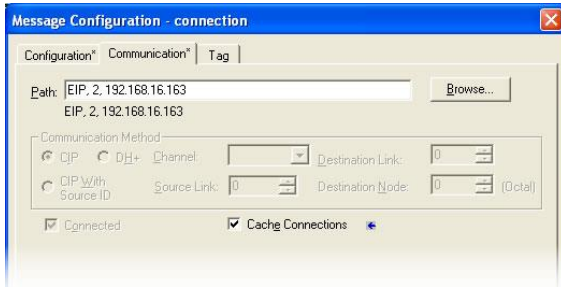

Figure 54: Setting the Communication Path
- d) “Communication” tab settings (refer to Figure 54):